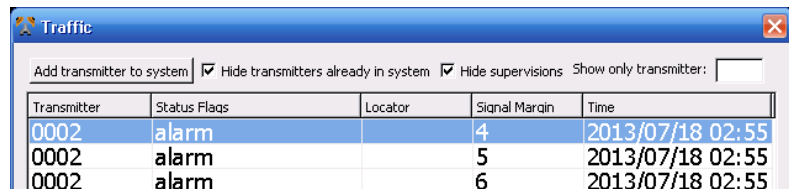

Figure 17: FA Traffic Window Showing Calls
4. The **Dev #** of the initiating transmitter will appear in the traffic window as shown in Figure 17. Click on the Dev # to select it, and then click the **Add transmitter to system** button. The FA Traffic Window will close and the **Transmitters** register of the Event Monitor will appear to finish adding the transmitter to the system.